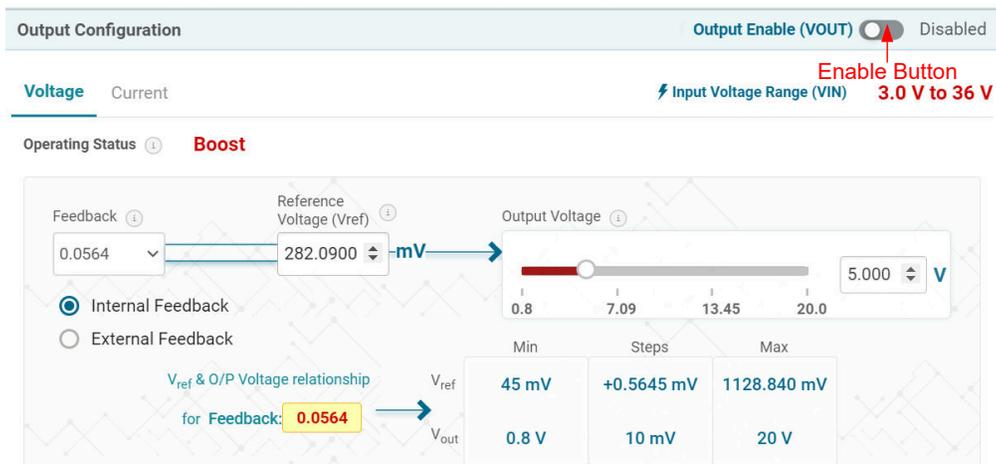

Figure 3-5. ENABLE Button
5. Click the *Enable* button (Figure 3-5). The default output voltage is 5V.